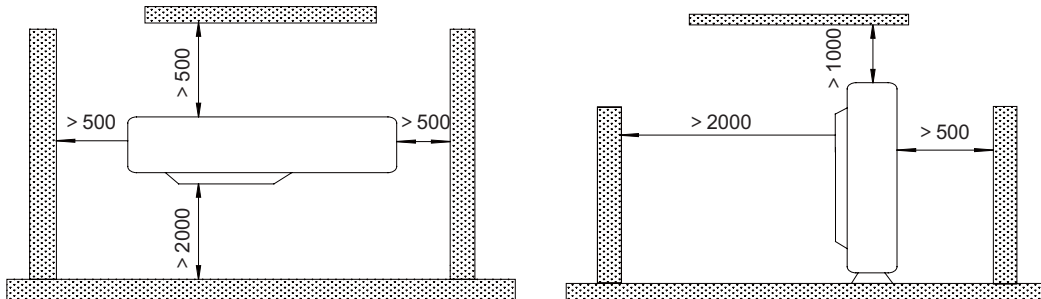

Figure 3-2-1
- (1). Install the outdoor unit in a place where it will be free from being dirty or getting wet by rain as much as possible.
- (2). Install the outdoor unit where it is convenient to connect with the indoor unit.
- (3). Install the outdoor unit where the condensate water can be drained out freely during heating operation.
- (4). Do not place animals and plants in the path of the warm air.
- (5). Take the air conditioner weight into account and select a place where noise and vibration are small.
- (6). Install the outdoor unit where is capable of withstanding the weight of the unit and generates as less noise and vibration as possible.
- (7). Provide the space shown in Figure 3-2-1, so that the air flow is not blocked. Also for efficient operation, leave three of four directions of periphera